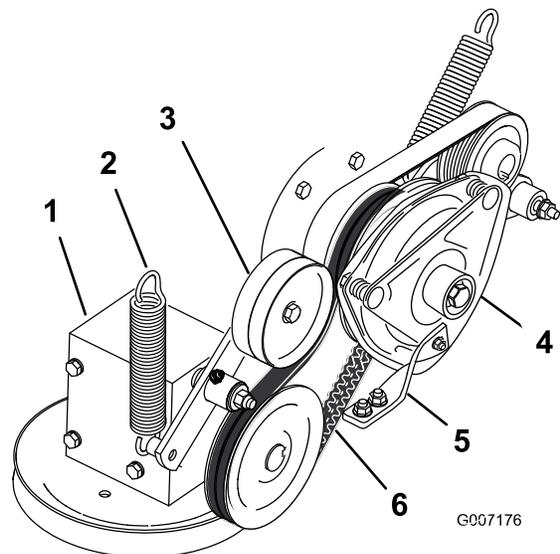

Figure 67
4. Remove the spring from the idler arm (Figure 67).
7. Install the PTO drive belt around the clutch pulley and the gearbox pulley (Figure 67).
9. Install the spring to the idler arm (Figure 67).